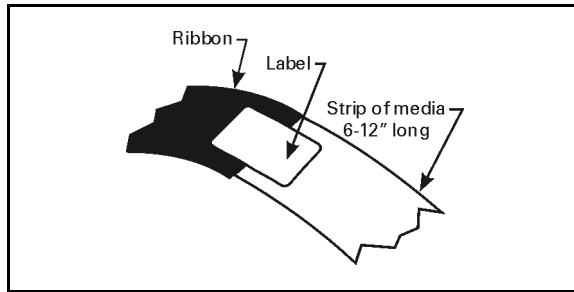

Figure 3
4. **Important...** To make ribbon loading and unloading easier, make a leader for your ribbon roll if it doesn't already have one (refer to Figure 3). Tear off a strip of media (labels and backing) about 6" - 12" long from the roll. Peel off a label from this strip and remove the remaining labels. Apply half of this label to the end of the strip and the other half to the end of the ribbon. This acts as a ribbon leader.
4. **Important...**To make ribbon loading and unloading easier, make a leader for your ribbon roll if it doesn't already have one (refer to Figure 3). Tear off a strip of media (labels and backing) about 6" - 12" long from the roll. Peel off a label from this strip and remove the remaining labels. Apply half of this label to the end of the strip and the other half to the end of the ribbon. This acts as a ribbon leader.